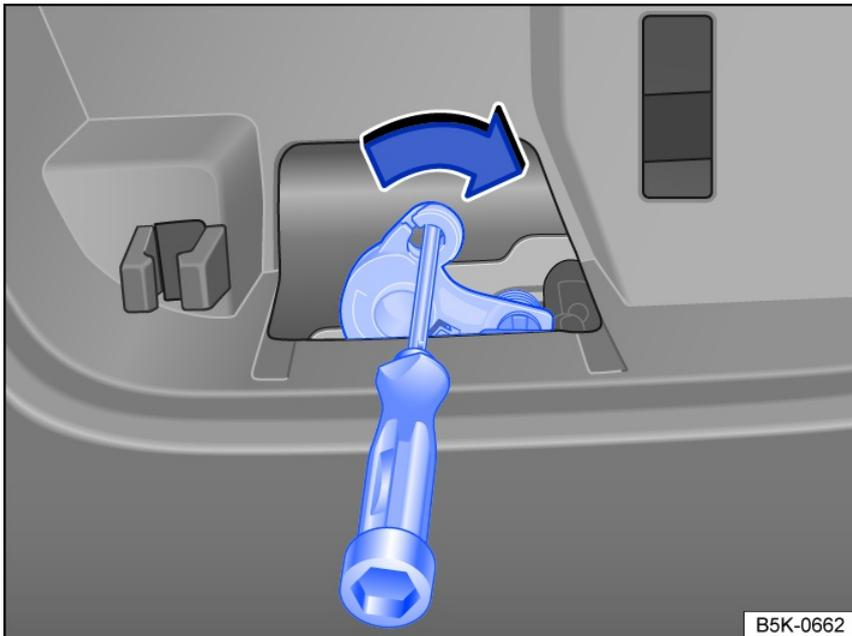

Fig. 70 In the trunk lid: emergency release for the trunk lid.
- Place a suitable object in the opening for the release lever and press in the direction of the arrow *fig. 70* to release the trunk lid.